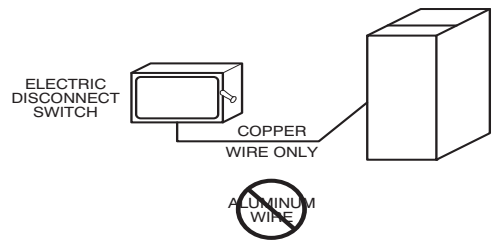

Fig. 33 – Field-Supplied External Electrical Box on Furnace Casing
Use only copper wire. See Fig. 33.
1. Drill two (2) 1/8-in. (3 mm) pilot holes through the dimples in the furnace casing near the 7/8-in. knock-out on the side of the casing. Do not remove the knock-out in the side of the casing.
9. Connect field power and neutral leads to furnace power leads inside the external electrical box as shown in Fig. 33.